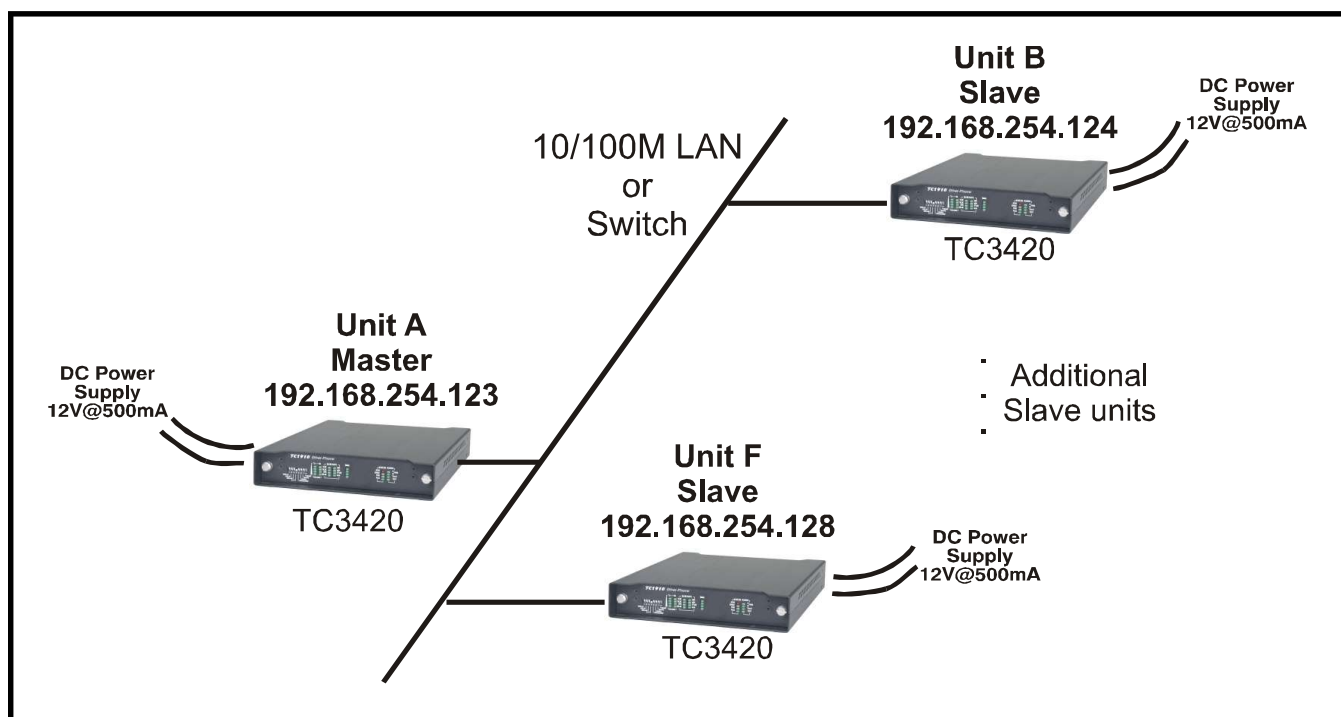

Figure 16. TC3420 Signal Generator Bench Tests
1. Set up the bench test as shown in Figure 16. At the Master unit, turn On the "SIG-GEN" switch by sliding the front panel SW5 to the down (On) position. The "BRD" LEDs on the TC3420 (Master) should start flashing. The "BRD" LEDs on all of the TC3420's (Slaves) should also flash, indicating receipt of the Master's broadcast signal. Once verified, turn Off the Signal Generator on the Master unit.